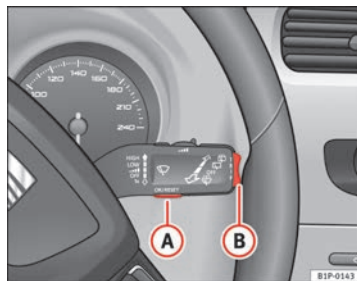
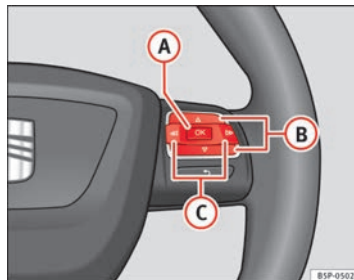

Fig. 43 Windscreen wiper lever: button A to confirm the menu selection and rocker switch B to change the menu
Fig. 44 Steering wheel controls: button A to confirm the menu selection and switch B to change the menu
- To access the “Configuration” menu, press button **C** ⇒ fig. 44 until the menu is displayed. Now you are in this menu.
- To change from one memory to another, briefly press button **A** ⇒ fig. 43 ⇒ page 68 on the windscreen wiper lever or the **[OK]** button on the multifunction lever ⇒ fig. 44 ⇒ page 68 while the ignition is switched on.
The following data can be viewed on the multifunction display using the rocker switch **(B)** → fig. 43 → page 68 on the windscreen wiper lever or by pressing button **(A)** or **(V)** → fig. 44 on the multifunction steering wheel*.